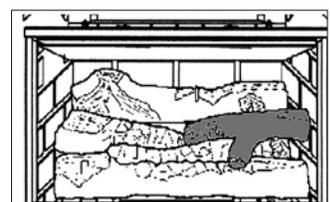

Figure 39 Right center log
5. Place the right side center log in position locating it on the two pins on the right hand side of the ash bed with its "nose" resting at the center of the ash bed. See figure 39.